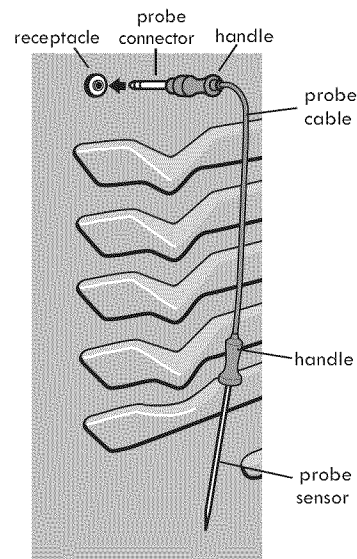

Figure 32: Using the probe
**CAUTION** Handle the meat probe carefully when inserting and removing from food or probe receptacle. Do not use kitchen utensils, such as tongs, to pull on meat probe cable when inserting or removing from food or receptacle. Use the provided handle, as shown in Figure 32. To avoid possibility of burns, after cooking carefully unplug meat probe using a pot holder to protect hands.